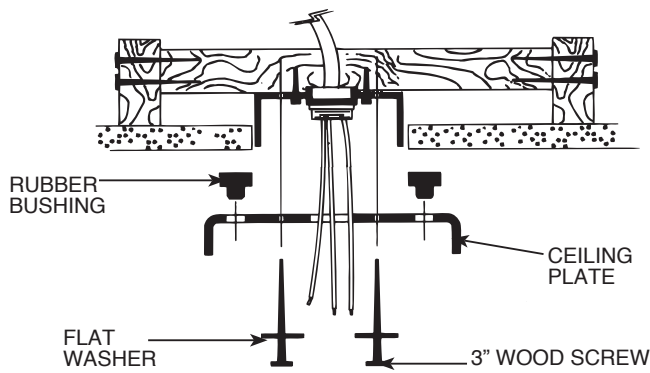

FIGURE 4A. Installing Ceiling Plate
**B.** Thread the lead wires through the opening in the ceiling plate and install the ceiling plate to the 2 x 4 brace which supports the outlet box. Use (2) #10 wood screws 3" long and (2) flat washers for mounting. Drill (2) pilot holes for the mounting screws 9/64" diameter. See Figure 4A.